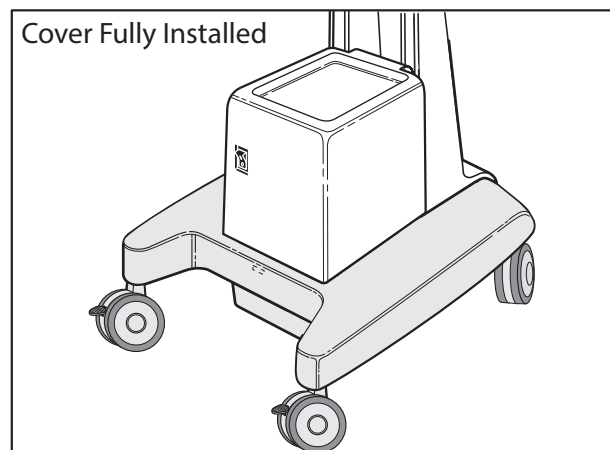

Figure 2-4-6 Powerpack Cover
2. Install the powerpack cover over the powerpack and align cover with the powerpack grooved base as shown in Figure 2-4-6.